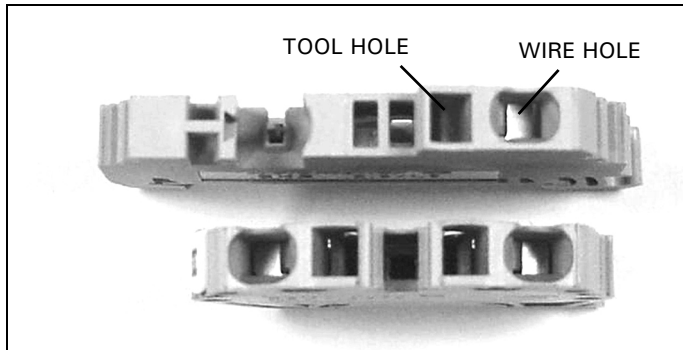

Figure 14. Tension Clamp Terminal Blocks.
Step 1: Figure 14 shows two tension clamp terminal blocks. There is a large one and small one, but the operation is the same for both. A small tool, such as a screwdriver, will be pushed into the square hole next to the wire hole and a wire will be inserted into the larger circular hole on the outer edge.